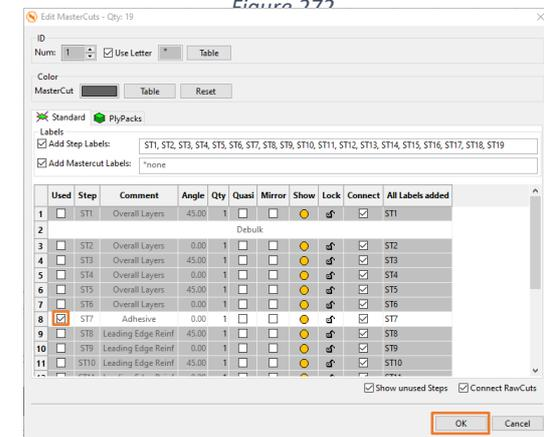

Figure 273
- 68. Now select ST7 on position 8 again (Figure 273).